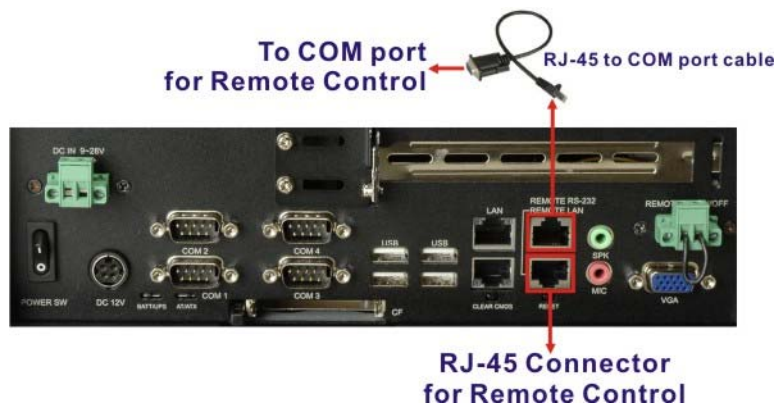

Figure 7-16: RJ-45 Remote LAN Connector
Step 1: Connect the RJ-45 remote LAN connector on the bottom panel of the UPC-12A/GM45 to a local area network connector. Or connect the RJ-45 to COM port cable to the “Remote RS-232 connector” and connect the DB-9 connector to the systems. (**Figure 7-16**)